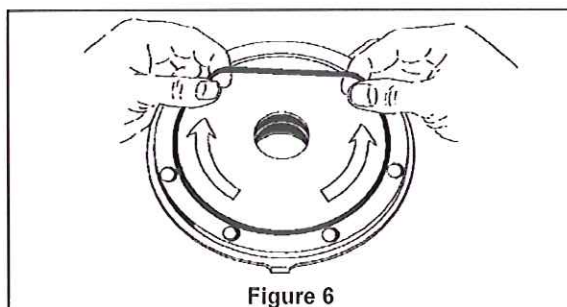

Figure 6
2. Install a new head O-ring (72) in the groove in the head. Lightly grease the outside circumference of the O-ring to facilitate head installation. Start in on one side of the groove, stretching ahead with the fingers. See Figure 6.